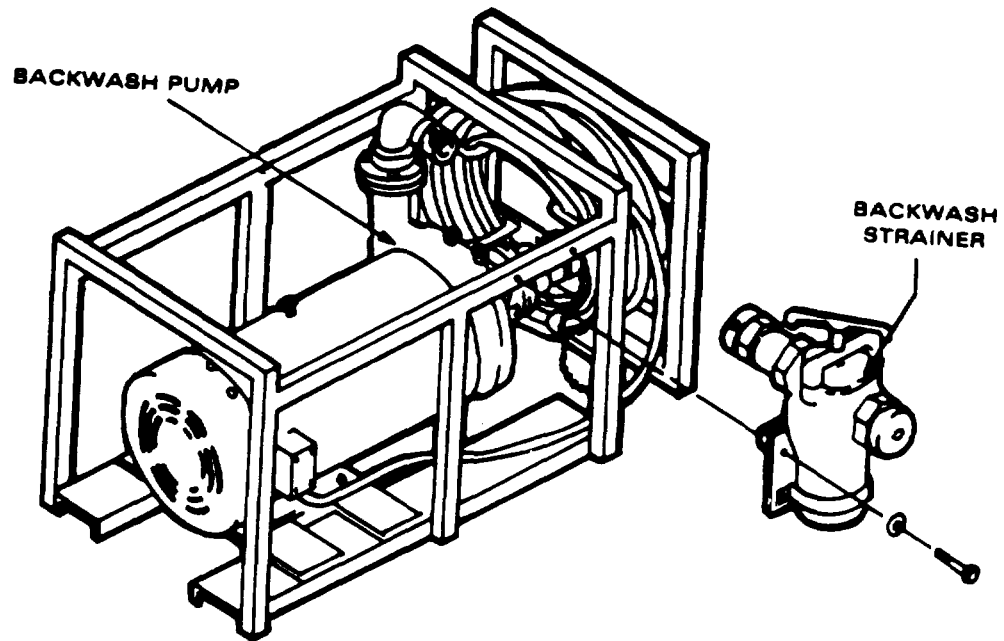

Figure 2-28. Backwash Pump And Strainer
m. Position operational equipment as shown in fig. 2-28 before starting initial installation.